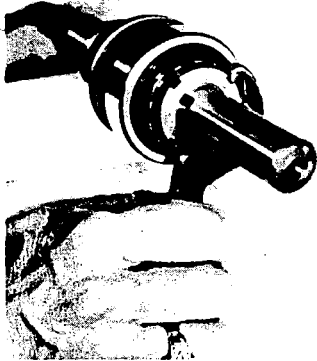

Figure 7
8. Install lock washer and lock nut using a spanner wrench (fig. 7).